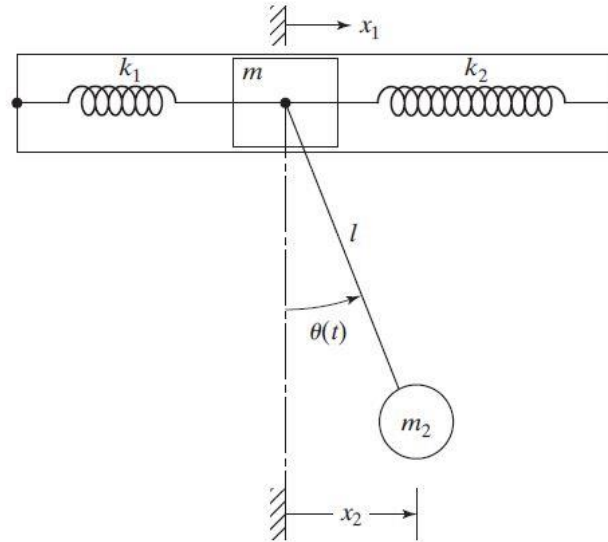

FIGURE 5.23
- 5.4 A two-mass system consists of a piston of mass m_1 , connected by two elastic springs, that moves inside a tube as shown in Fig. 5.23. A pendulum of length l and end mass m_2 is connected to the piston as shown in Fig. 5.23. (a) Derive the equations of motion of the system in terms of $x_1(t)$ and $\theta(t)$. (b) Derive the equations of motion of the system in terms of the $x_1(t)$ and $x_2(t)$. (c) Find the natural frequencies of vibration of the system.